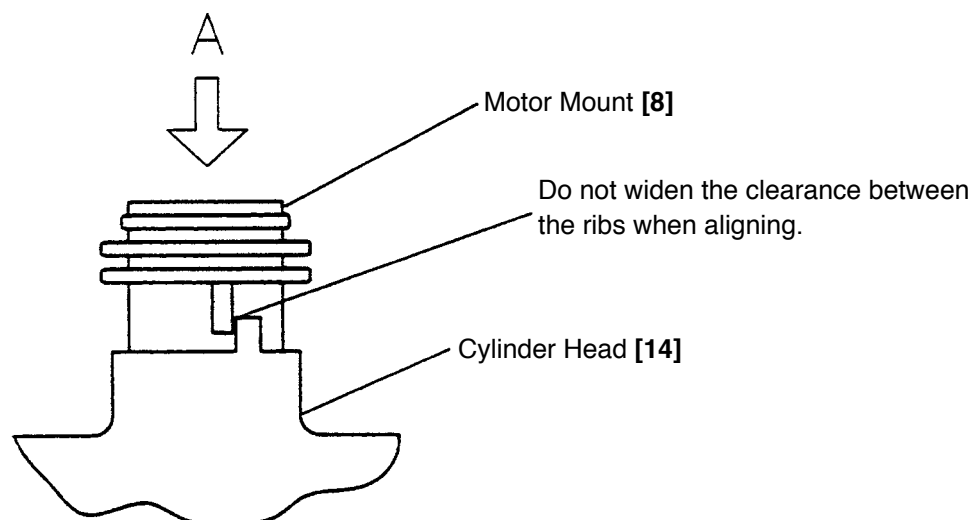

Fig. 28
- Set the Cylinder Head [14] and the Motor Mount [8] as shown in Fig. 28 and secure with the Hex. Socket Set Screw M4 x 5 [31]. At this time, lightly press the Motor Mount [8] in "A" direction to prevent the Motor Mount [8] from floating.